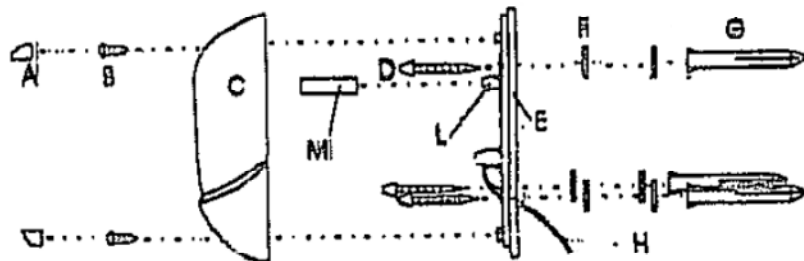
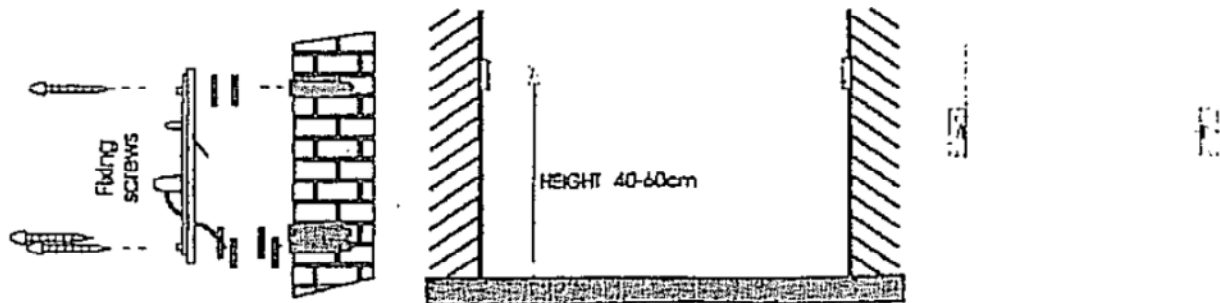

Figure 1 PHOTODEVICE PARTICULARS
fig.5 WALL FIXING
1) Take down the cover of the photodevices (see figure 1)
4) As shown in the figure 1, fix the photodevice structure E on the wall, using the fixing screws D, the centering distance part F and the reinforcements G. For a correct installation, the transmitter and the receiver have to be installed in frontal position and aligned on the same axle (figure 5); it is necessary to operate on the fixing screws to obtain the best alignment of the transmitter and the receiver.
7) If the distance between the transmitter and the receiver is lower than 4-5 metres, the presence of some reflecting metallic parts next to the transmitter could create interferences to the system. In this case it is necessary to select the "minimum range" and/or insert the "canalizador" tube, of 5mm diameter, on the photodevice F of the receiver (see figure 1). It is necessary to consider that the use of the "canalizador" tube causes a range decreasing of about 30%.
9) Assemble the cover C, using the fixing screws B (see figure 1).